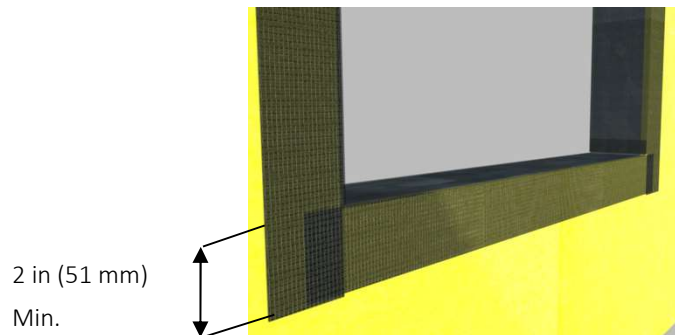

Fig. 3
- 4) Install the AquaFlash System at the jambs in the same manner overlapping onto the sill material a minimum of 2 in (51 mm) – **Figure 3.**